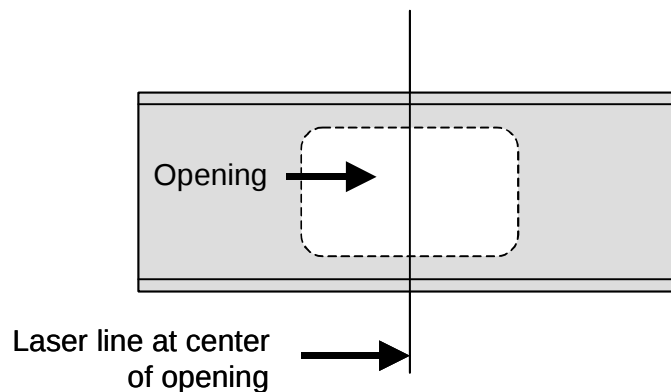

Figure 14
2. Mark the location of the center of the opening to be cut (see Figure 14)
4. Slide the top so the centerline is aligned with the laser line (see Figure 14) and the backsplash is located tight to the front stops.